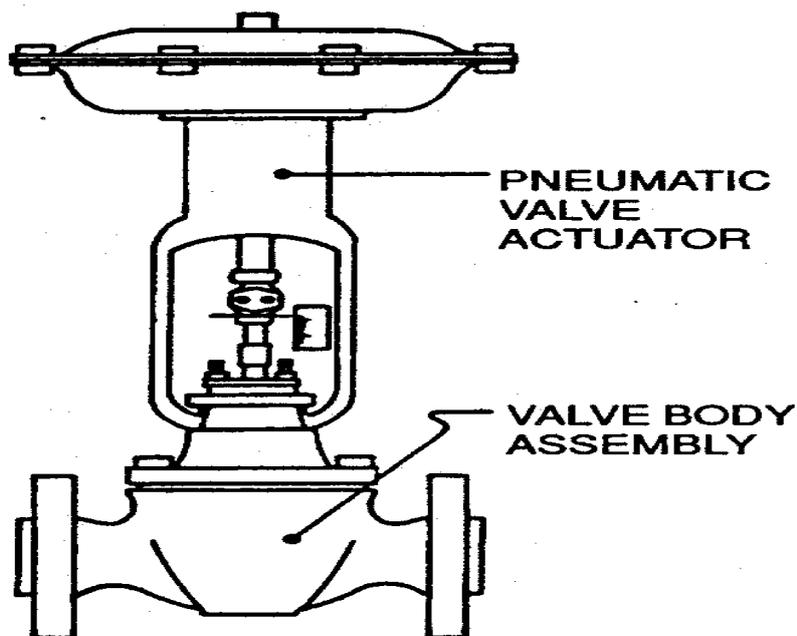

Figure 1: A Typical Globe Valve.
- Globe valves are the most frequently encountered control valves in process plants. Figure 1 shows the side view of a **typical globe valve**, which is named after its globular shaped valve body.